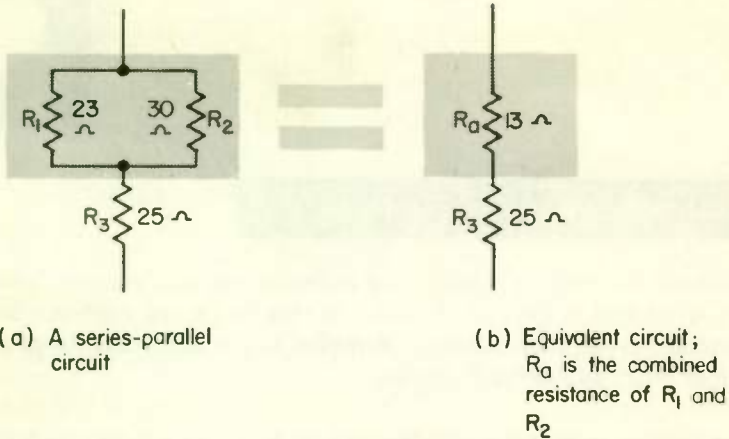

Fig. 1. A series-parallel circuit and its equivalent circuit.
1 SERIES-PARALLEL CIRCUIT WITH RESISTANCE VALUES GIVEN . . . Figure 1(a) shows a series-parallel circuit. Resistor R_1 and R_2 are connected in parallel, and this combination is connected in series with R_3 . To find the total resistance of the circuit, first find the combined resistance of R_1 and R_2 , shown in Fig. 1(b) as R_a and then find the total series resistance of R_a plus R_3 .
EXAMPLE 1 . . . In Fig. 1(a), if R_1 is 23 Ω (ohms), R_2 is 30 Ω and R_3 is 25 Ω , the total resistance of the circuit is _____ ohms.
4. Suppose, in Fig. 1(a), that the values of R_1 , R_2 , and R_3 are 14, 18, and 22 Ω , respectively. Suppose also that this series-parallel circuit is connected to a 90-V source. The combined resistance of R_1 and R_2 is (a) 8 ohms. The combined resistance of R_1 , R_2 , and R_3 is (b) 30 ohms. The 90-V source supplies (c) 3 amperes to the circuit. The current through R_3 is (d) 3 amperes. The voltage drop across R_3 is (e) 66 volts; that across R_1 is (f) 1.088 volts; and that across R_2 is (g) 1.088 volts. The current through R_1 is (h) 1.5 amperes, and that through R_2 is (i) 1.5 amperes.
5. Suppose, in Fig. 1(a), the value of R_1 is 27 Ω , the value of R_2 is 34 Ω , and the value of R_3 is 58 Ω . If the circuit is connected to a 100-V source, the current through R_3 is (a) _____ amperes, the current through R_1 is (b) _____ amperes, and the current through R_2 is (c) _____ amperes.
6. In Fig. 1(a) the value of R_1 is 5 Ω , that of R_2 is 20 Ω , and that of R_3 is 6 Ω . The circuit is connected to a voltage source. The current through R_1 is 3 A. The voltage across R_1 is (a) _____ volts, and the volt-
7. In Fig. 1(a), R_1 is $240\ \Omega$, R_2 is $80\ \Omega$, and R_3 is $650\ \Omega$. The circuit is connected to a voltage source. The current through R_1 is $30\ \text{mA}$ or (a) _____ amperes; the current through R_2 is (b) _____ milliamperes; and the current through R_3 is (c) _____ milliamperes. The voltage across R_1 is (d) _____ volts; that across R_2 is (e) _____ volts; and that across R_3 is (f) _____ volts.